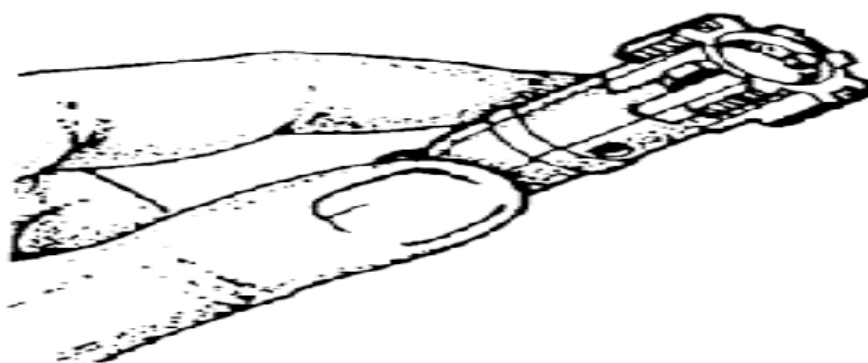

Figure E-26. Holding the extractor pin.
- c. Push the extractor pin in (figure E-26).